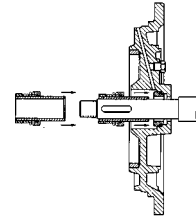

Fig.: 8
7. Montar la parte girante del cierre sobre la camisa o eje cuidando de no dañar la junta tórica. (fig. 8)
7. Mount the mobile parts of the new mechanical closing on axis jacket taking care of not making damage the joining. (fig. 8)